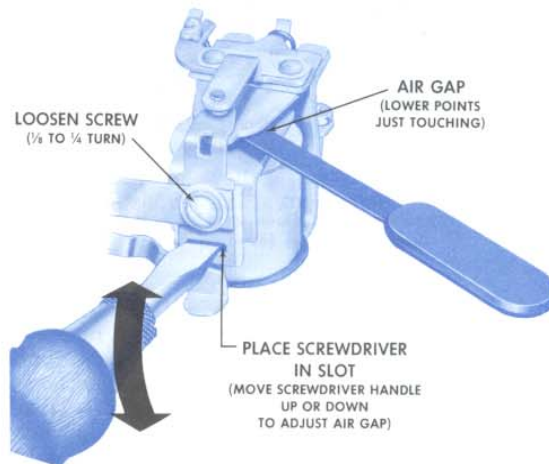

Figure 13—Voltage regulator air gap check and adjustment.
2. Lower set of Contacts—The difference in voltage between the operation of the upper set of contacts and the lower set is increased by *slightly* increasing the air gap between the armature and center of core and decreased by *slightly* decreasing the air gap. See Figure 13 for changing the voltage regulator air gap. This adjustment can be made while the regulator is
1. With lower contacts touching, measure air gap between armature and winding core as shown in Figure 13.
2. Adjust by loosening contact support bracket screw approximately $\frac{1}{8}$ to $\frac{1}{4}$ of a turn, place a screwdriver in slot in contact support bracket and into the molded insulator as shown in Figure 13. Raise on the handle of screwdriver to increase the air gap and lower the handle of the screwdriver to lower the air gap.